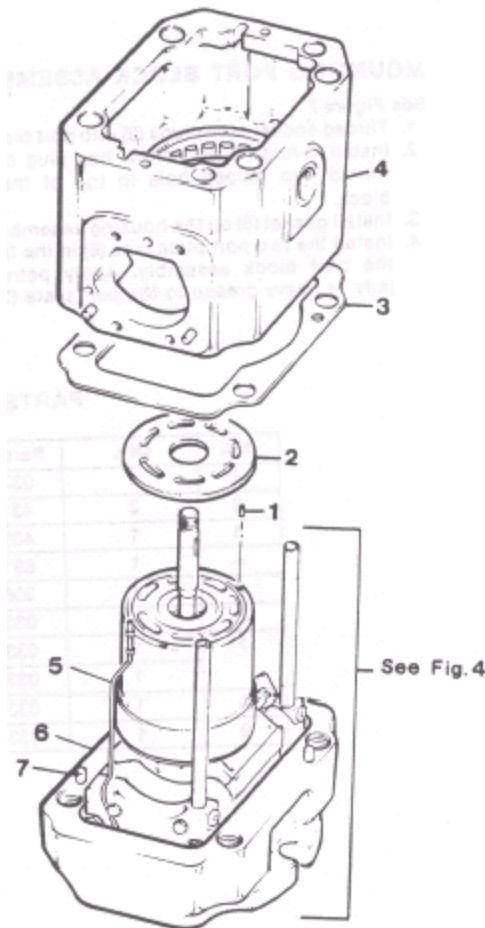

FIGURE 6
HOUSING INSTALLATION*See Figure 6*
4. Install the housing assembly (4) over the barrel and auxiliary shaft assembly and carefully guide the pressure tubes and tube lines (items 3, 4 and 5, fig. 4) through the housing assembly (4, fig. 6).
PARTS LIST FOR FIGURE 6